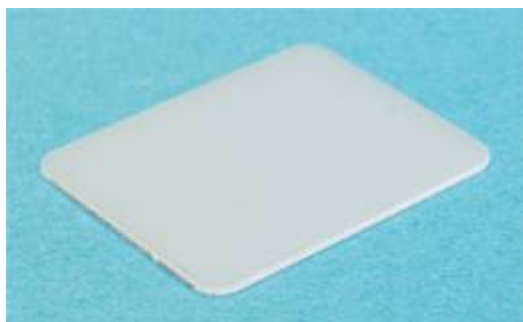

Fig. 2-100
- It's recommended to use substrate (Fig. 2-100). The substrate is made of poly-crystal sapphire and has dimensions 24 x 19 x 0.5 mm;
- The samples, which have sizes more than 10-15 mm but less than 40-50 mm, it's recommended to fix them on a special transition substrate (Fig. 2-100). You can also use a standard backing with with a transition substrate stuck on it with a width of 2 mm. The width